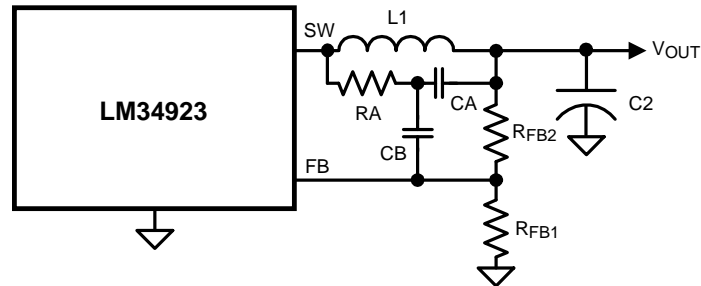

Figure 37. Minimum Output Ripple Using Ripple Injection
**b) Minimum ripple configuration:** If the application requires a lower value of ripple (<10 mVp-p), the circuit of Figure 37 can be used.  $R_3$  is removed, and the resulting output ripple voltage is determined by the inductor's ripple current and  $C_2$ 's characteristics.  $R_A$  and  $C_A$  are chosen to generate a sawtooth waveform at their junction, and that voltage is AC-coupled to the FB pin via  $C_B$ . To determine the values for  $R_A$ ,  $C_A$  and  $C_B$ , use the following procedure: